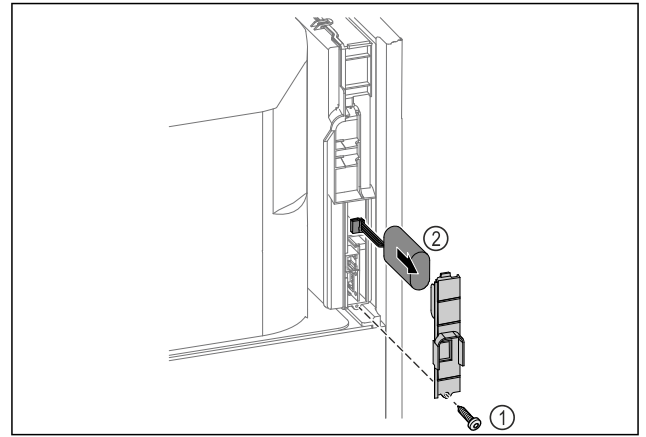

Fig. 254
- ▶ Unscrew screw and remove cover from the back of the appliance Fig. 254 (1).
- ▶ Disconnect and remove battery Fig. 254 (2).